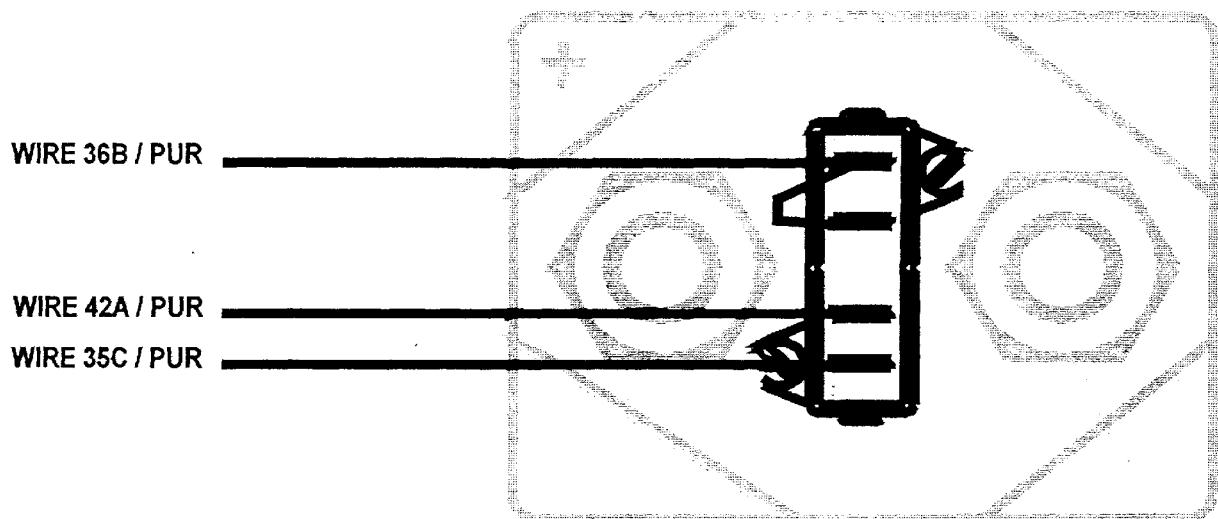

FIG. 4 - WIRING TO INTERLOCK SWITCH ON REVERSE DIRECTION CONTACTOR
DIRECTION CONTACTOR: (Refer to Fig. 4)**
1. Cut the existing terminal lugs off the three purple wires labeled "36B", "35C" and "42A". Refer to Fig. 4.
2. Crimp the female terminal lugs (Sevcon part #963/35012 or equivalent) on wires "42A", "35C" and connect as shown in Fig. 4.
3. Crimp the female terminal lug (963/80044 or equivalent) on to wire "36B". Splice a second wire into this crimp and crimp the same type of lug onto the second wire. Connect the 2 terminals as shown in Fig. 4.